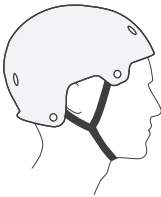
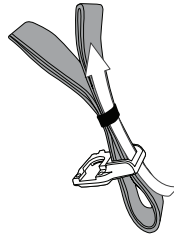

Figure 8.
Figure 9.
The helmet is designed to be retained by a strap under the lower jaw. The two straps hanging from the right strap adjuster that go under the lower jaw are collectively called the chinstrap (Figure 8). Make sure the chinstrap is correctly threaded through the right buckle (Figure 9).
The chinstrap should be located as shown in Figure 8 and should fit snugly against the bottom of your chin. If not, re-adjust.
4. To keep the chinstrap from flapping, tuck it through the rubber O-ring (Figure 9).